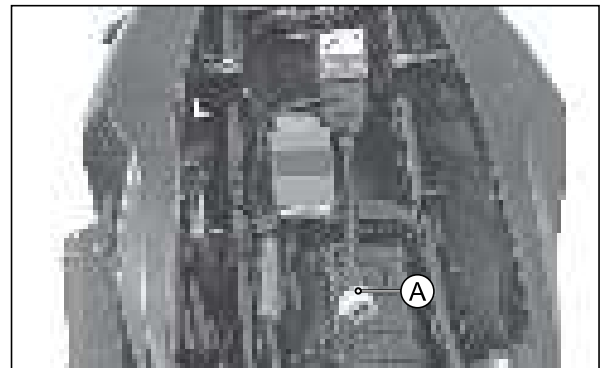

Fig. 7.4
- Connect the connector cable of the tool to the diagnostic coupler (A) located below the seat assembly. (Fig. 7.4) Refer chapter "Periodic maintenance" page no. 2-3 for the removal procedure of seat assembly.